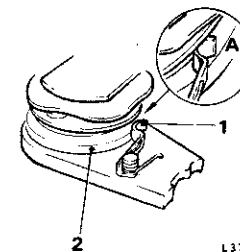

Fig. 2 Windscreen wiper motor detent lever and eccentric
3. Examine the upper edges of the detent lever for signs of fouling as shown in Figure 2.
Should there be any signs of fouling, the upper edge of the lever should be carefully filed until clearance exists between the lever and the upper plate of the eccentric as shown in Figure 2.